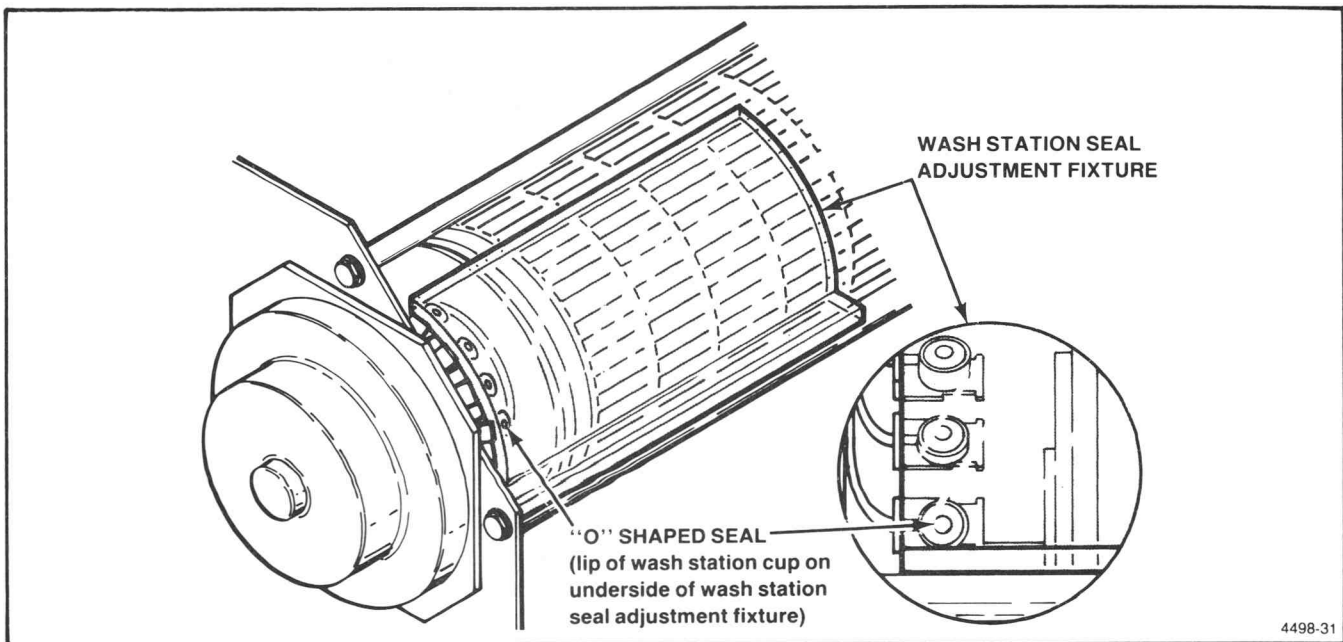

Figure 5-13. Wash Station Seal Adjustment Fixture.
6. Slide the wash station seal adjustment fixture to the left and up against the left stop, which is the Z-shaped brackets holding each cup. Slide the fixture to the left until the Z-shaped brackets are "rocked" to the left (see Figure 5-13).
7. Check that the lip of each of the four wash station cups forms a complete O-shaped seal on the underside of the fixture (see Figure 5-13). If the cups do not form a complete O-shaped seal, move the wash station slightly until the all cups make a complete seal. Ensure that the top edge of each Z-shaped bracket is flat against the edge of the wash station seal adjustment fixture. Use pliers and gently rotate any bracket that is not flat against the fixture.